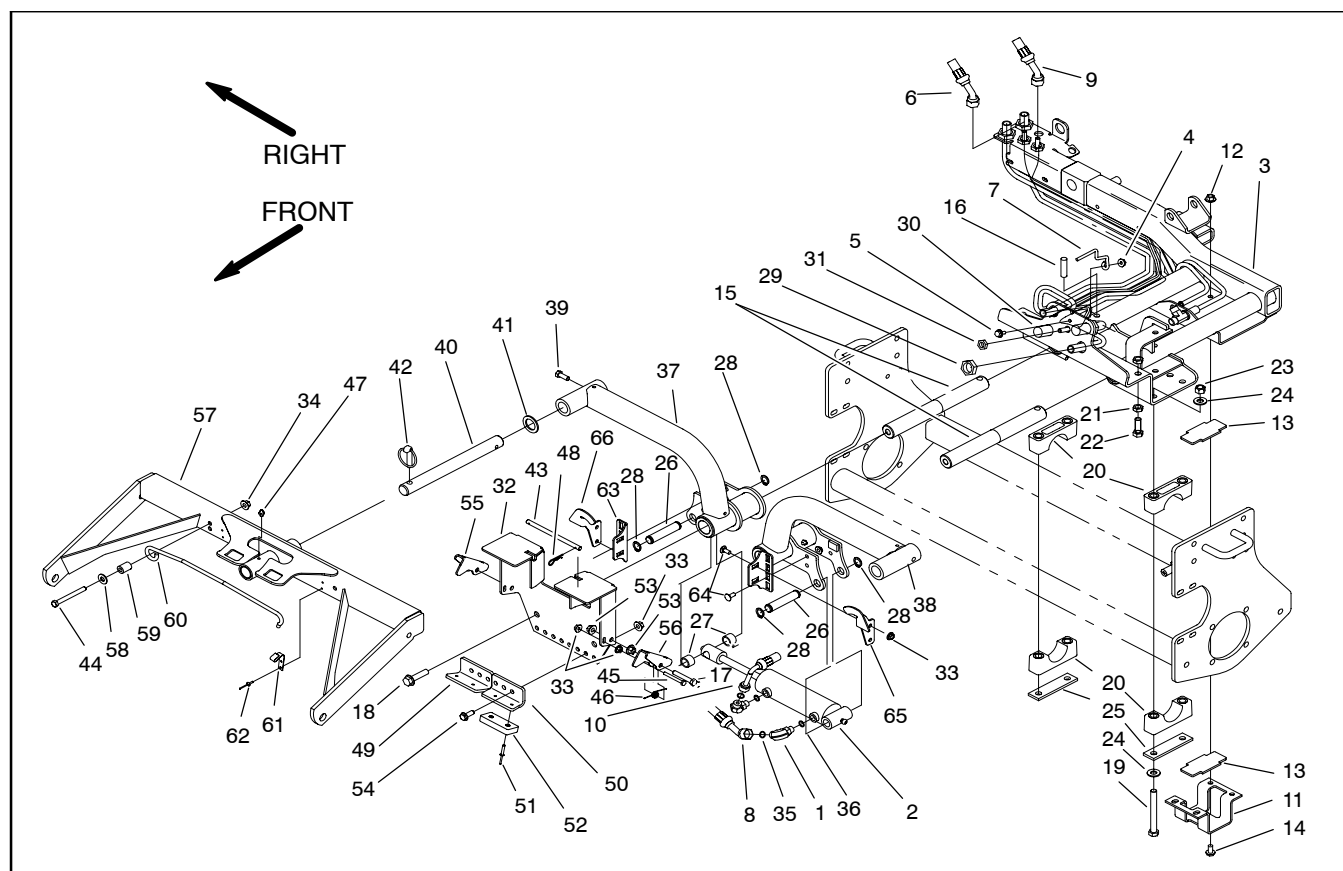

Figure 17
6. Disassemble lift arm as necessary using Figure 17 as a guide.
1. Assemble lift arm using Figure 17 as a guide.